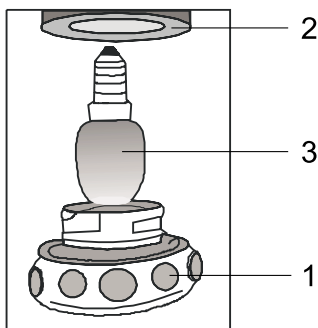

Fig. 21
- Bulb is not screwed all the way in – unscrew glass bowl 1 from the lamp socket 2, and screw the bulb 3 all the way (fig. 21).